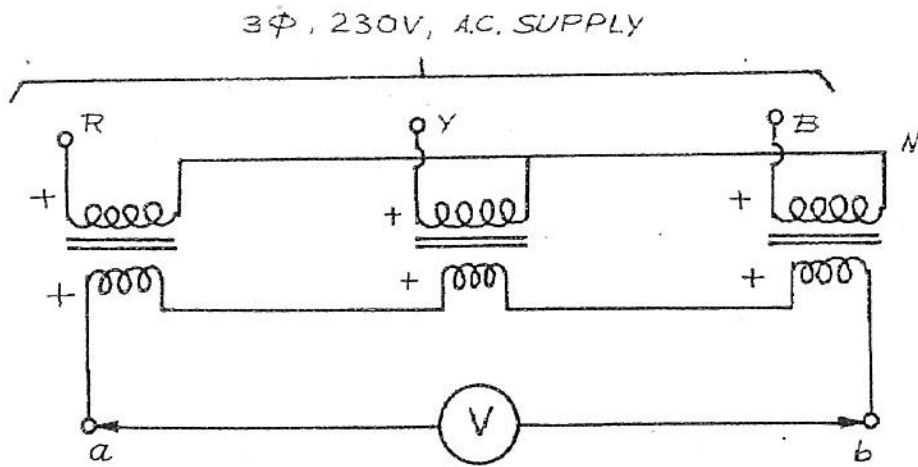

FIG. 4 : STAR / DELTA CONNECTION
- Repeat the same procedure connecting the three transformers in Star/Star, Star/Delta, and Delta/Delta one by one and note the reading in the data sheet. In case of Star/Delta and Delta/Delta connections, before closing the delta of the secondary windings, measure the voltage between the closing points 'a' and 'b' (fig. 4) of the secondary windings to be sure that the voltage is zero (WHY?)